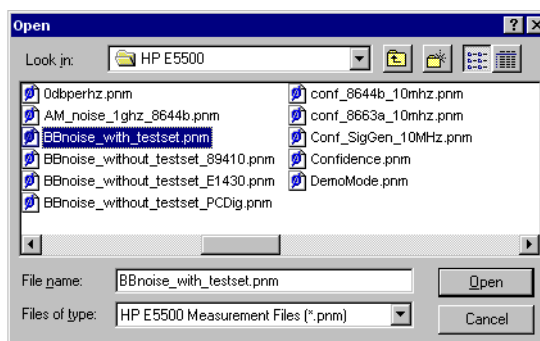

Figure 14-1 Select the Parameters Definition File
- 3 In the **File Name** box, choose “**BBnoise_with_testset.pnm**.” See Figure 14-1.